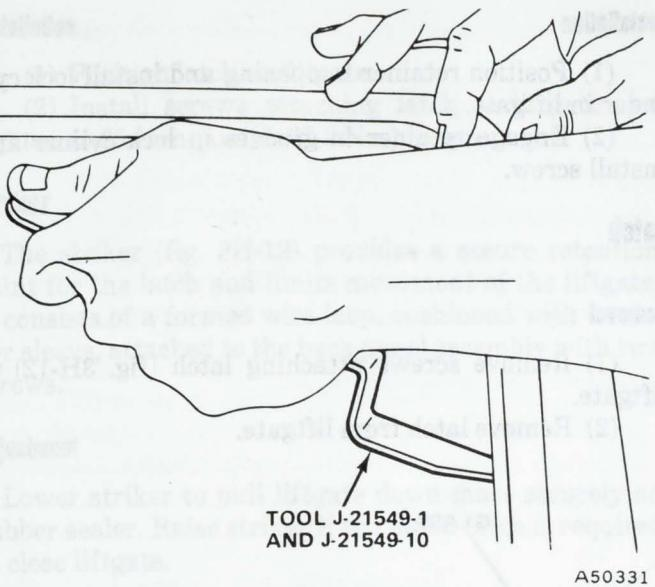

Fig. 3H-11 Removing Reveal Moulding
- (a) Insert tool between glass and moulding, parallel with glass (fig. 3H-11).
- (3) On cars equipped with electrically heated rear windows, disconnect feed wire and ground wire connections as described below: